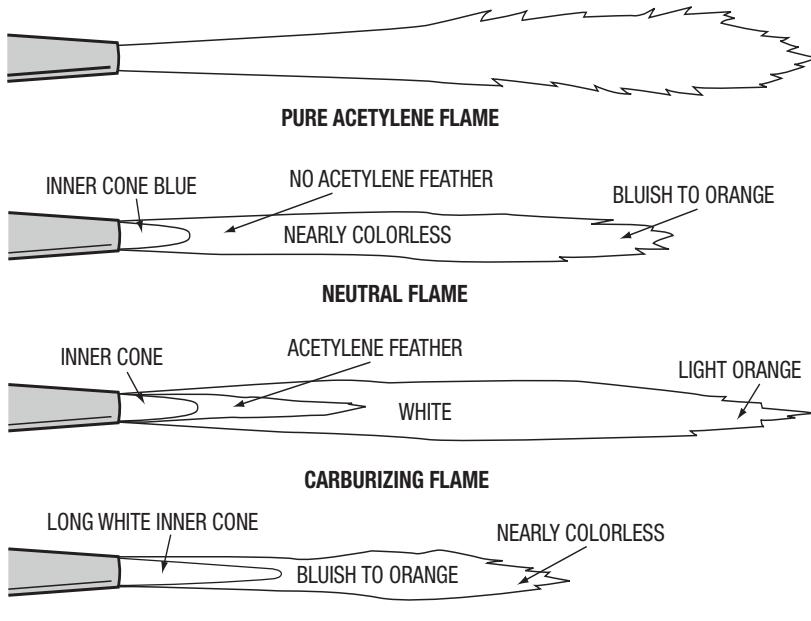

Figure 12: Acetylene Welding Flames
- Open the torch oxygen valve until a bright neutral flame is established (see figure 12).